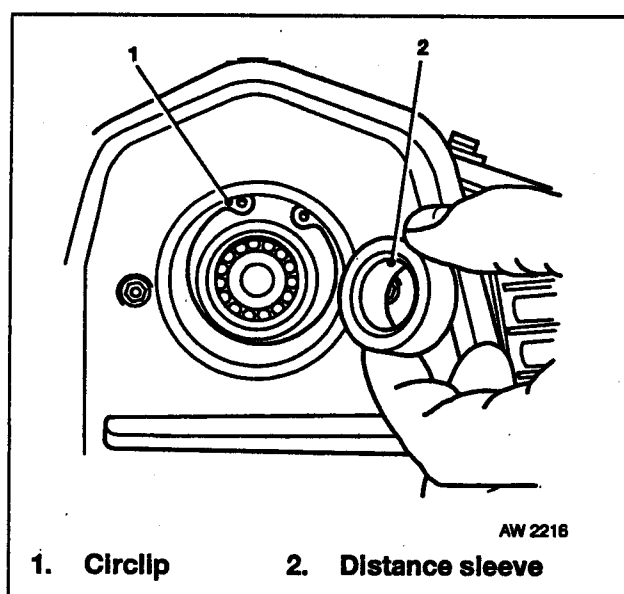
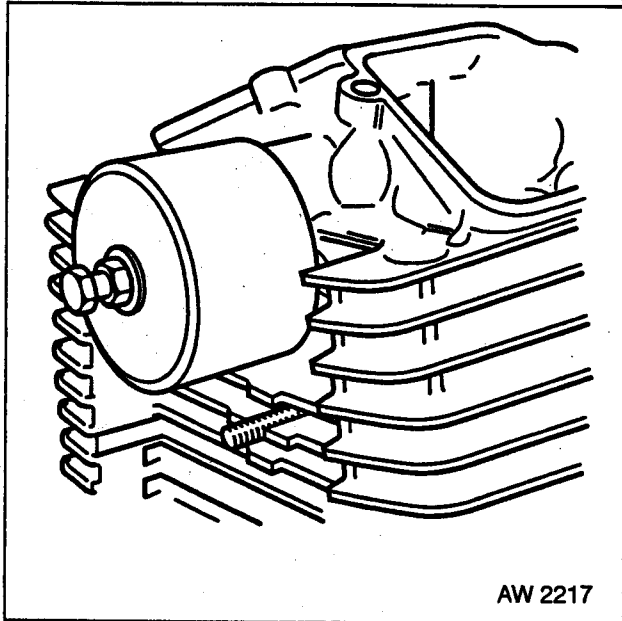
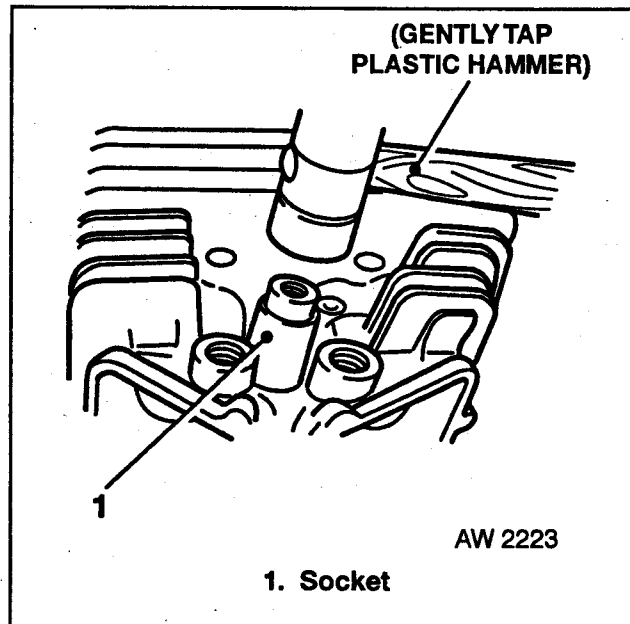

Fig 2.10 Camshaft Distance Sleeve and Circlip Removal
Fig 2.11 Camshaft Extraction
Fig 2.12 Camshaft Bearing Removal
f. Lift rocker arms from cylinder head. Remove Camshaft distance sleeve and securing circlip (Fig 2.10 refers), then using camshaft removal tool remove camshaft, pulling camshaft bearing and seal as one assembly (Fig 2.11 refers). The remaining camshaft bearing (needle roller type) can be driven from the cylinder head using a suitable sized socket and nylon hammer (Fig 2.12 refers).